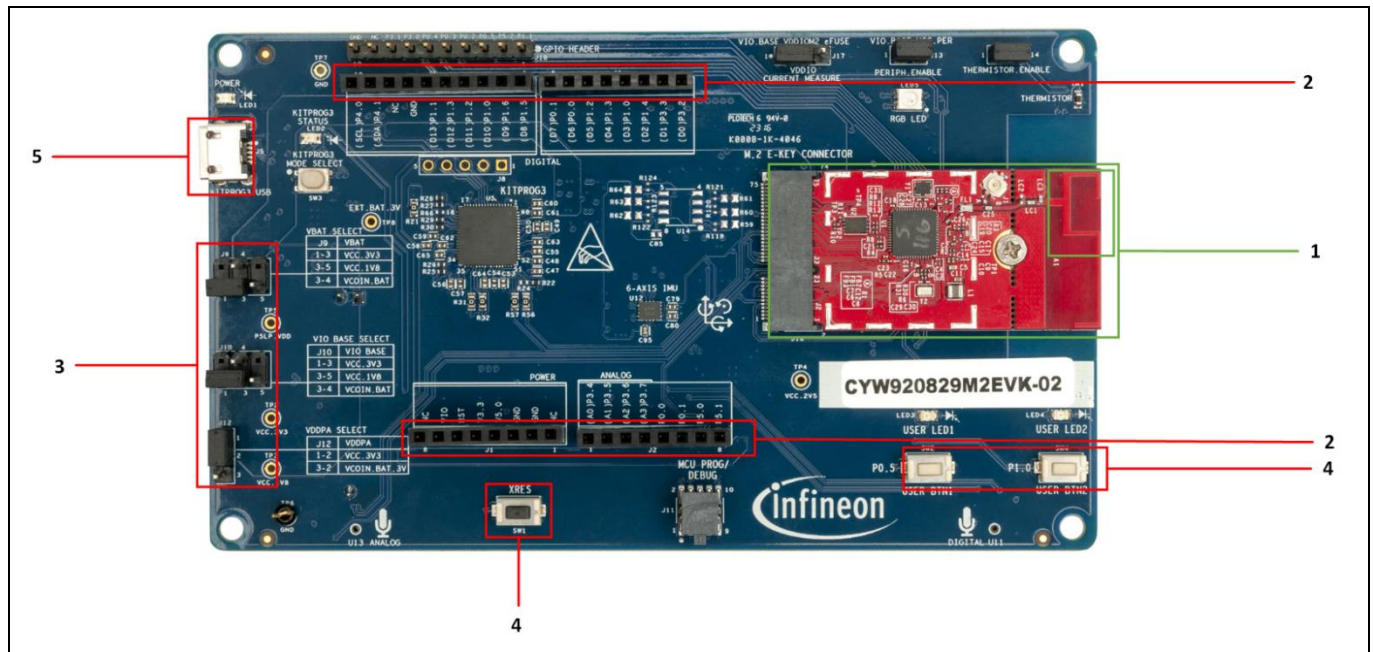

Figure 2 CYW920829M2EVK-02
Figure 2 shows CYW920829M2EVK-02 with the following features:
1. Verify that all the jumpers are in the default configuration as shown in Table 2 to Table 7 so that the peripheral UART is selected and can display embedded application trace messages. Figure 2 shows the default jumper locations.